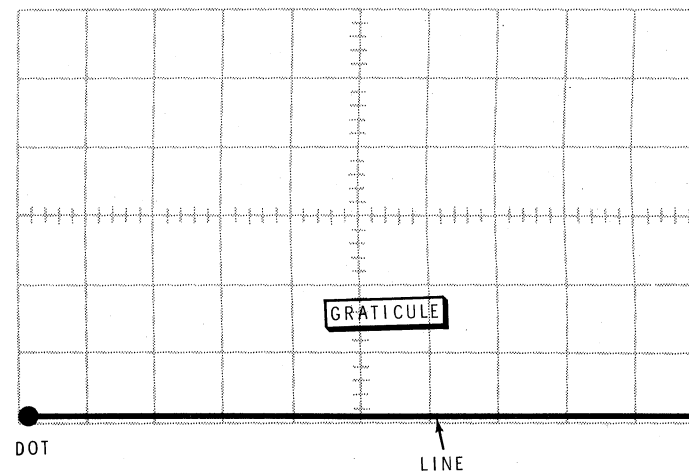

Figure 1-12
- () Position the dot in the lower left-hand corner of the graticule. See Figure 1-12.